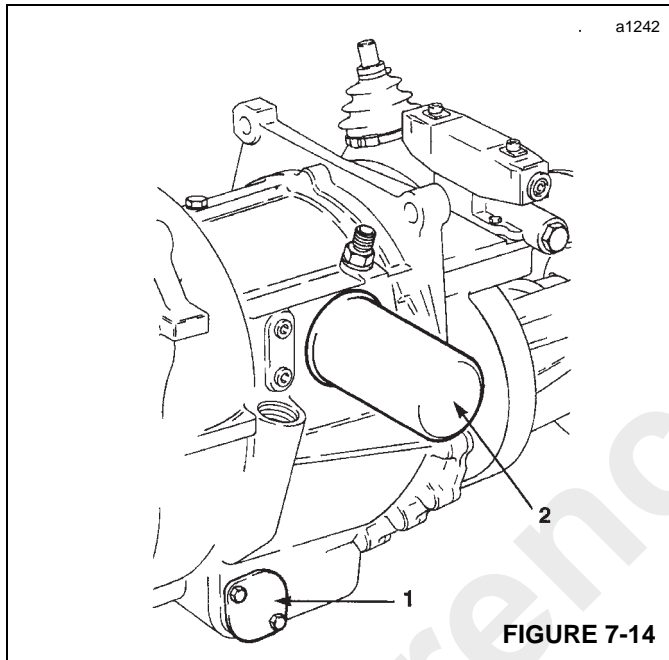

FIGURE 7-14
1. If not previously done, drain the oil from the transmission casing by removing the suction strainer (1, Figure 7-14).